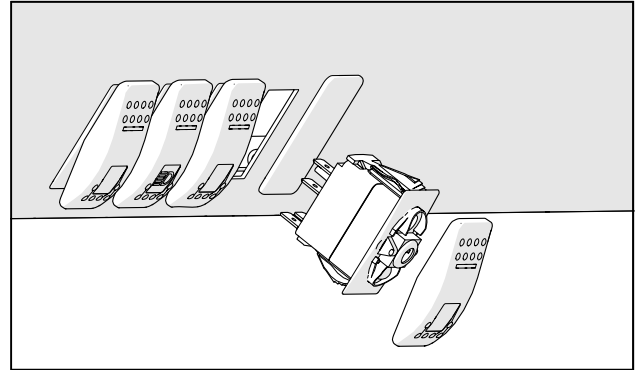

Fig. 3.1
- 3.1 Remove one of the switch plugs from the console and install the washer switch as shown. See Figure 3.1.